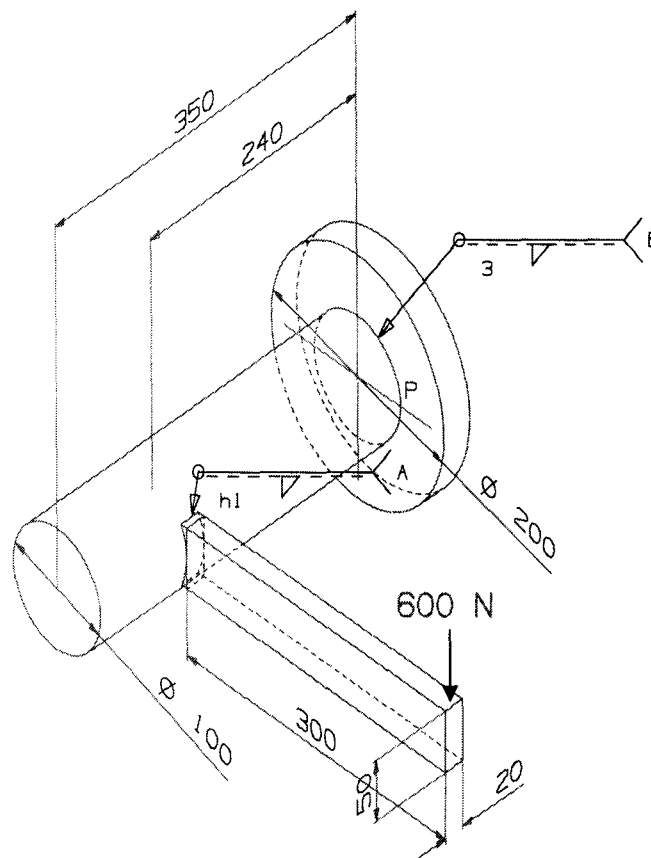

Figure 1 (Dimension unit : mm.)
1. In figure 1, a 20 X 50 mm bar is welded to a 100 mm diameter cylinder beam and next to a 200 mm diameter cylinder crank respectively. Define E16012 welding rods, allowable shear stress of 94 MPa and ultimate stress of 160 MPa, are used to join all parts together. Assume the size of each 45° fillet is welded of both weld lines and transverse shear is uniformly distributed in the welds. (50 points)